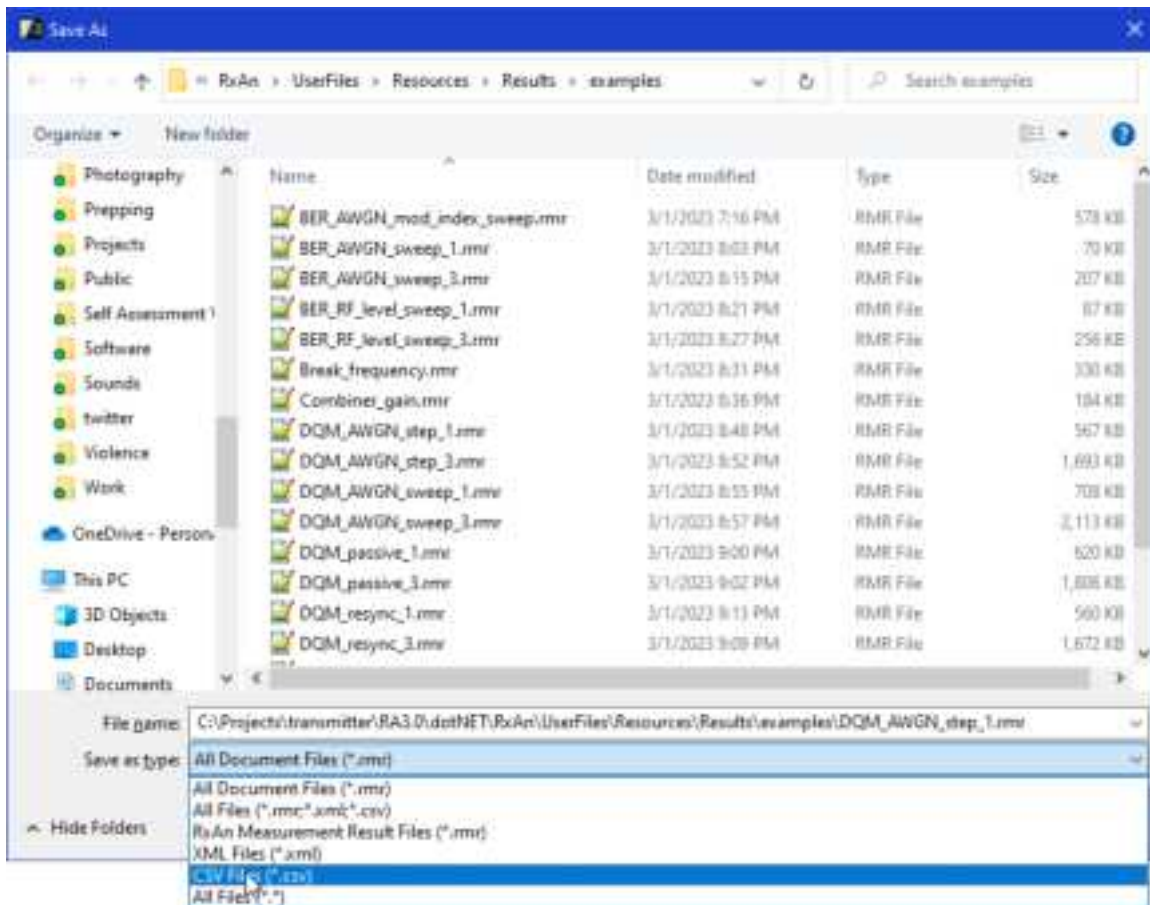

Figure 279: Example Save Measurement Results Drop Down Menu Selection
3. Select CSV Files (*.csv), as shown in Figure 279.